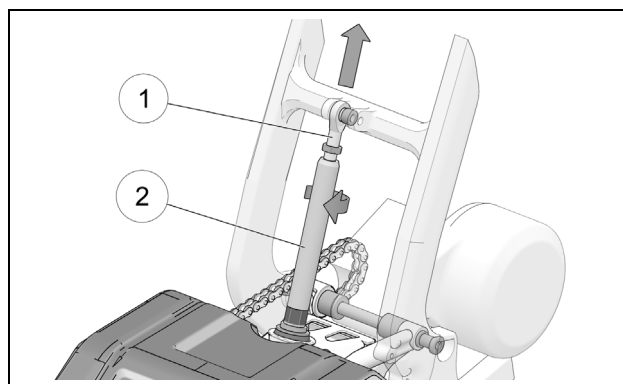

Figure 2
- Loosen the rod end's jam nut. Adjust the length of rod end (1) by turning the strut rod (2) using a 25 mm wrench. See Figure 2.